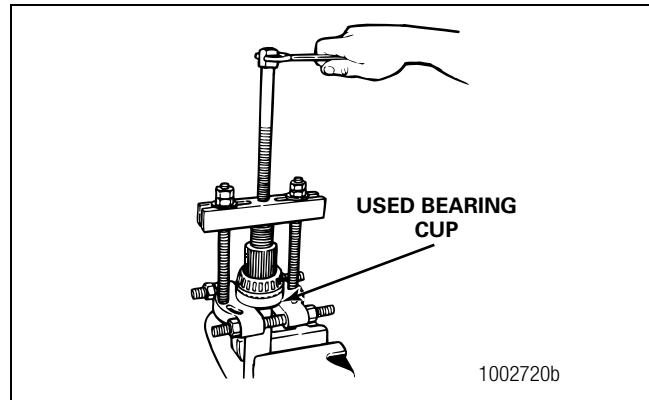

Figure 3.15
2. Install a bearing puller tool onto the thru-shaft. Figure 3.15. The bearing cup supports the thru-shaft.